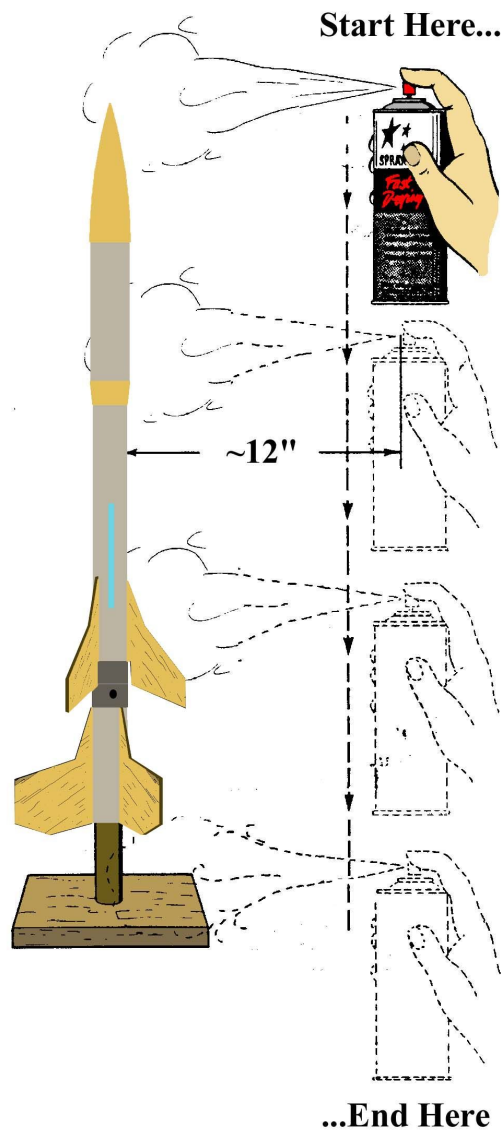

Fig. 12
- Step 17** The illustration in Fig. 12 shows the correct method of applying primers, paints, and clear coats to your model. This method applies to any form of spraying – airbrush, aerosol, or spray gun. Always spray in the same direction, top to bottom -- *never* side-to-side or bottom-to-top. Our preferred finishing method involves several coats of Rust-O-Leum White Clean Metal Primer, with sanding after the second coat to remove rough patches using 220-grit paper, followed by repeated coats of primer and sanding with 400-grit, and finally 600-grit paper. When the surface is smooth, and as free of imperfections as possible [ie – the spiral-wrap in the tube is completely filled, and there are no bare places where the tube shows